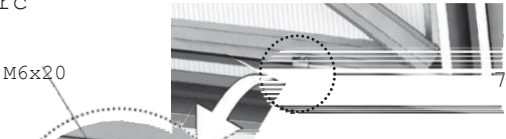

Fig. 9
10. The small window is fixed in closed position using hooks hitched on a balk with elastic bending across arc (Fig. 9).